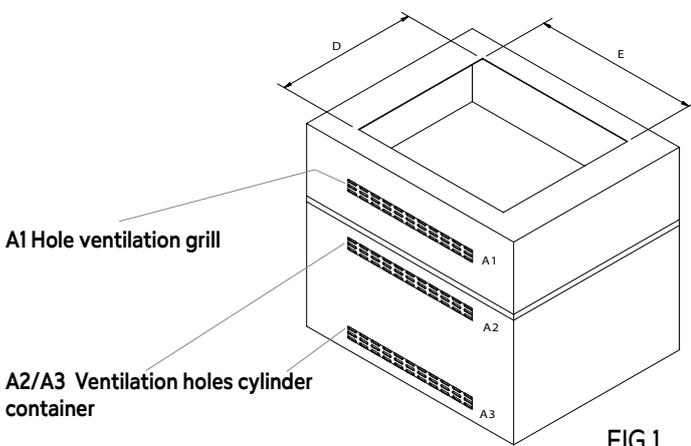

FIG.1
- If the appliance is installed in a closed premise, it is required the presence of ventilation openings, which may be positioned on the front or rear of the structure and must comply with size envisaged. See FIG.1 and FIG.2: